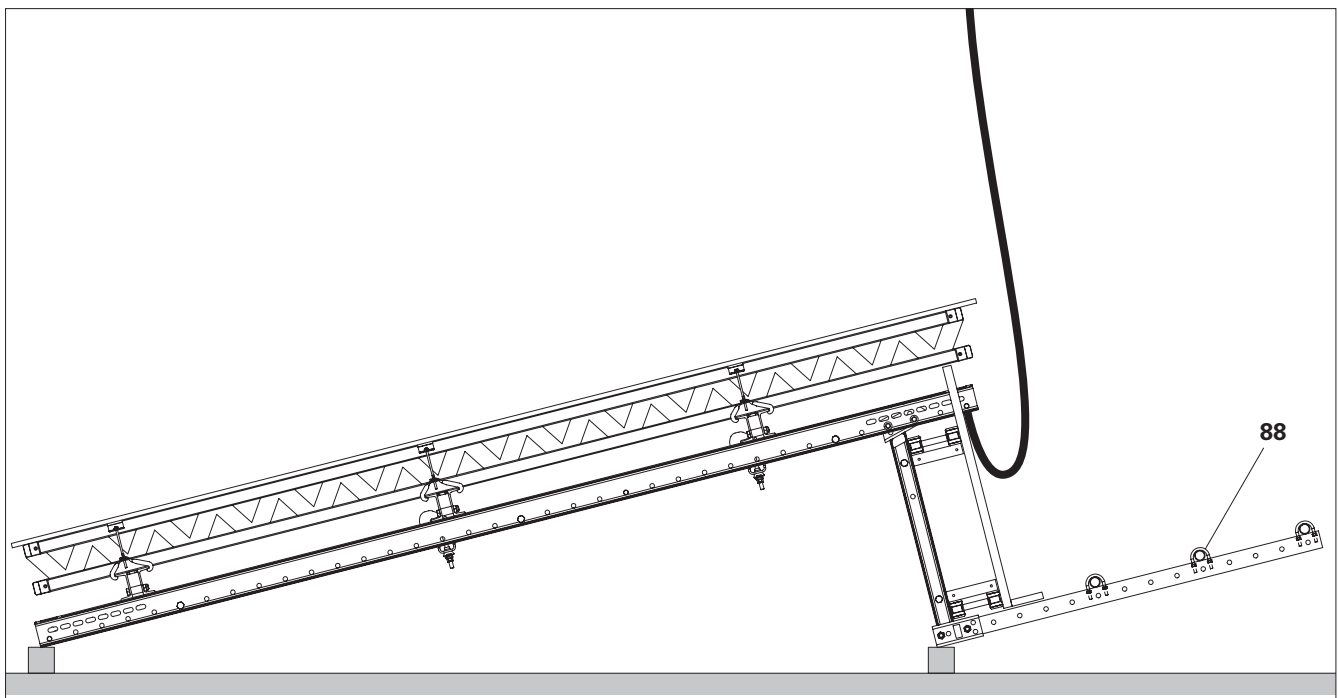

Fig. C1.12
8. Fit the scaffolding tubes (88) or guardrail boards to the guardrail post. See Section "Guardrails" on page 52. (Fig. C1.12)